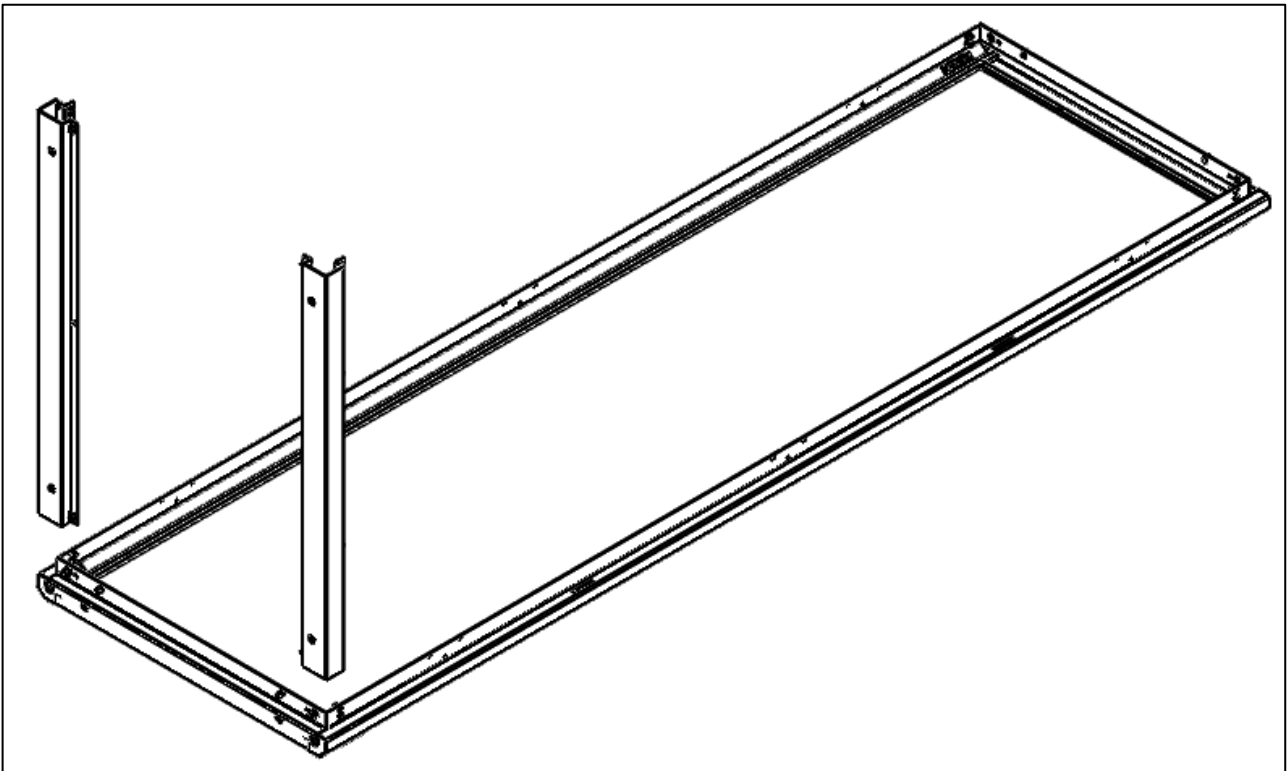

Figure 1
- (1) Place the rear frame on a flat-surface.
- (2) Place the bottom extension bars on the bottom out-corner 2pcs as shown on the **Figure 1**.